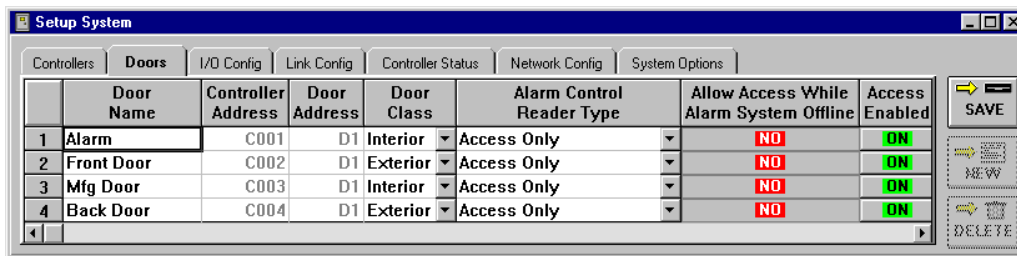

Figure 19: Setup System - Doors Tab
Once the Alarm Control feature has been enabled and the access control network has been updated, two columns (Alarm Control Reader Type and Allow Access While Alarm System Offline) are added to the **Doors** tab in the Setup System window (see Figure 19). These columns allow for specific configuration of the readers associated with the Alarm Control panel.
- To assign an Alarm Control Reader Type, click on the Setup ⇒ System pull-down menu or click the  button on the tool bar. Then click on the **Doors** tab. The Doors window appears (see Figure 19).